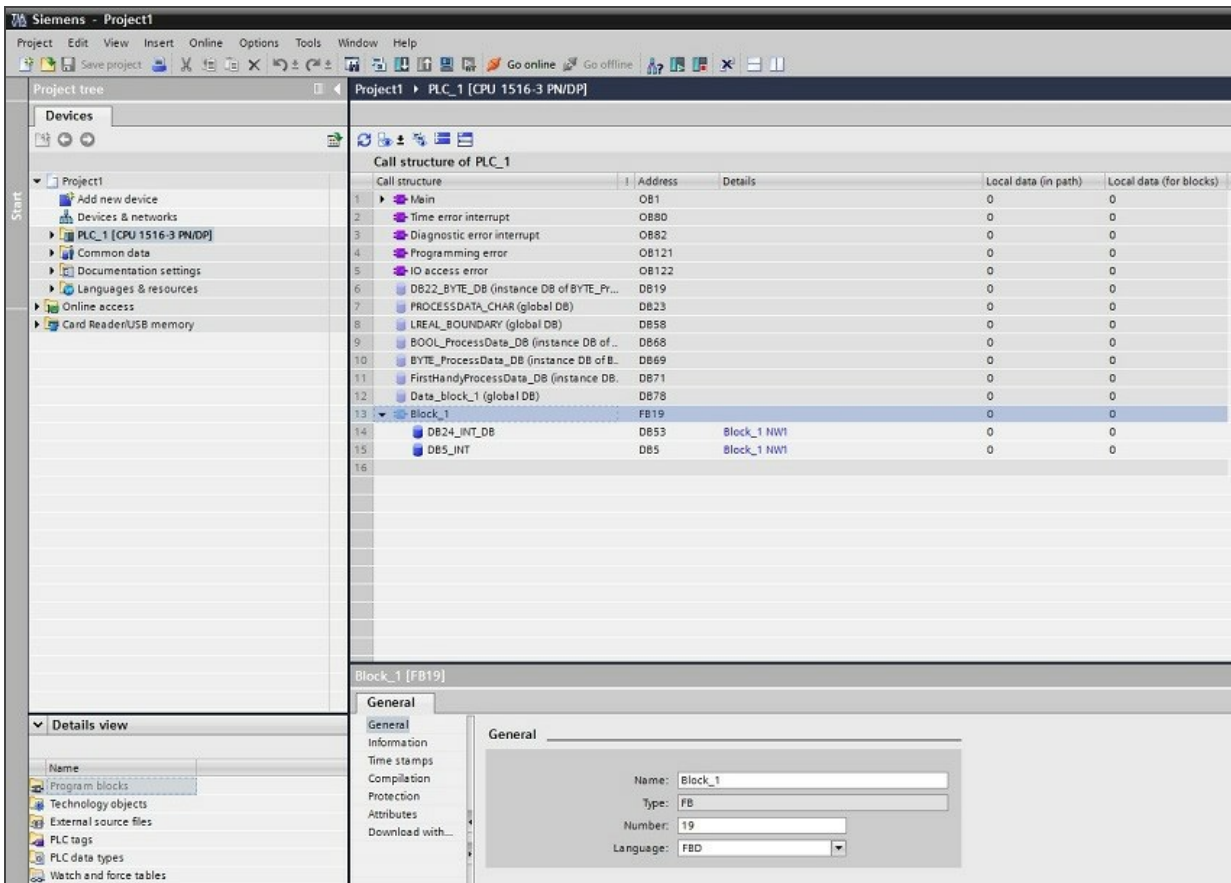

Figure 8: Data Block – Block_1 (FB19)
1. From the TIA programming software, go to the data block you are working with. In this *Tech Note*, we use Block1 (Figure 8 below).